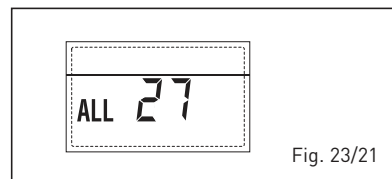

Fig. 23/21
- COMPATIBILITY INPUT (S3) ERROR ONLY FOR SYSTEM 7 "ALL 28" (fig. 23/22)